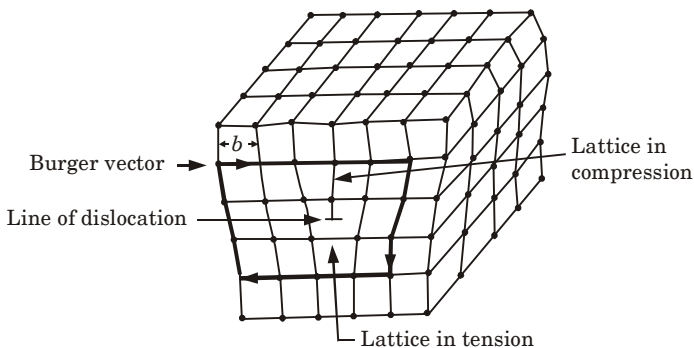

Fig. 1.14.1. Edge dislocation with Burger vector.
2. (Fig. 1.14.1) shows the introduction of an extra half plane in a perfect crystal, resulting in an edge dislocation.